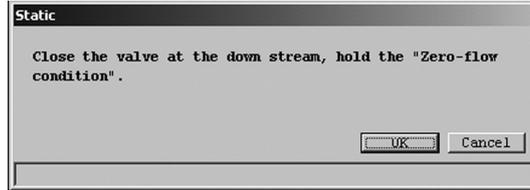

Fig.107
- ① Click the "Diag/Service (T)" menu, select "Installation" from the "Test/Status" drop-down list, and then click "Static" under that.
- ② The following window will be displayed (Fig. 107). This will check the static device installation state. Click "OK" after completely stopping the fluid.